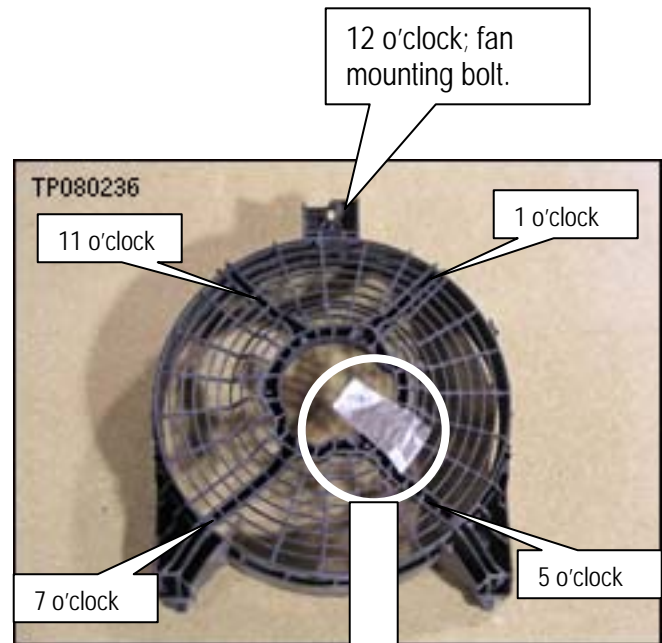

Figure D-12
10. Thoroughly clean all dirt and debris from the fan shroud between the 1 o'clock and 5 o'clock ribs (see Figure D-12).